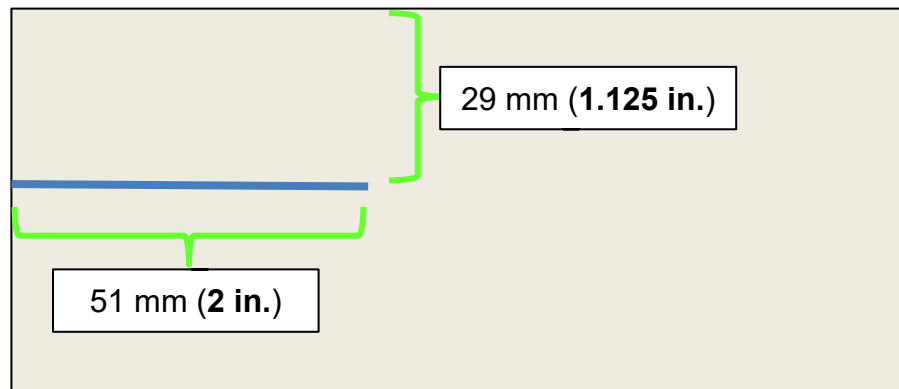

Figure 15
18. On the foil side of one (1) of the four (4) Butyl Patches, measure and mark a line, as shown in Figure 15, and then using scissors cut along the line.